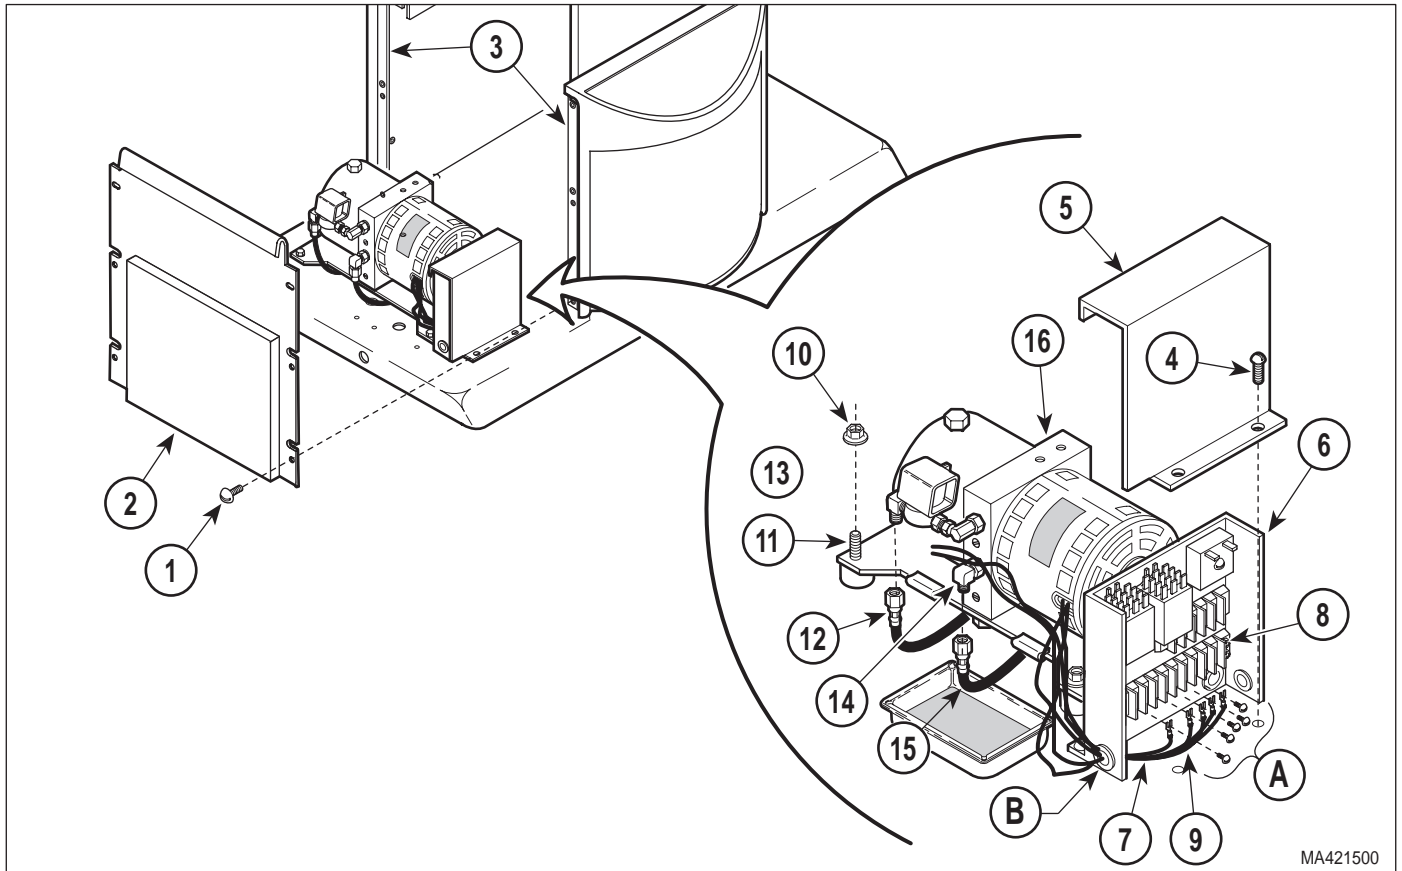

Figure 4-8. Motor Pump Assembly - Complete Removal / Installation
- (1) Unplug power cord from wall outlet.
- (2) Remove motor cover (Refer to para 4.2).
- (3) Remove four screws (1, Figure 4-8) and back outer shroud (2) from left and right hand outer shrouds (3).
- (4) Remove two screws (4) and control cover (5) from control panel (6).
- (5) Loosen three terminal screws (A); then tag and disconnect three motor pump wires (7) from terminal block (8).
- (6) Pull motor pump wires (7) out thru wire hole (B).
- (7) Loosen two terminal screws; then tag and disconnect anti-cavitation solenoid valve wires (9) from terminal block (8).
- (8) Pull anti-cavitation solenoid valve wires (9) out thru wire hole (B).
- (9) Remove four nuts (10) from four motor mounts (11).
- (10) Disconnect hose assembly (12) from male elbow (13).
- (11) Place a drain pan under elbow (14).
- (12) Disconnect hose assembly (15) from elbow (14). Allow oil to drain into drain pan.
- (13) Remove motor pump assembly (16) from four motor mounts (11).